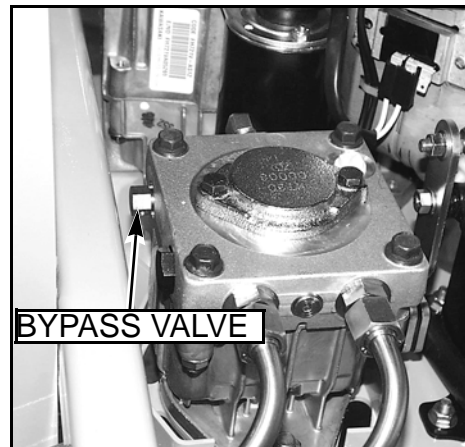

FIG. 84
3. Open the hydraulic pump's bypass valve "FIG. 84", on the side that is being adjusted, by turning bypass valves counter clockwise one-half to one revolution. The valve stems on each hydraulic pump are located near the top and are identified as a hex stud.